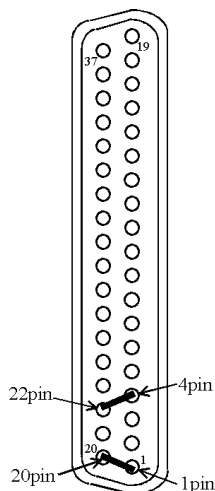

Fig.1 Example of short-circuit line.
- If the external interlock function is not used (used when an interlock with equipment other than a system in which the pump is installed is activated), connect 1 and 20 by a jumper wire or if the remote emergency stops function (only AC line is shut down) is not used, connect 4 and 22 by a jumper wire. If this wiring is not connected between these pins, the pump will recognize it as an external interlock command or an emergency shutdown command and will not start. (Refer to Fig.1)